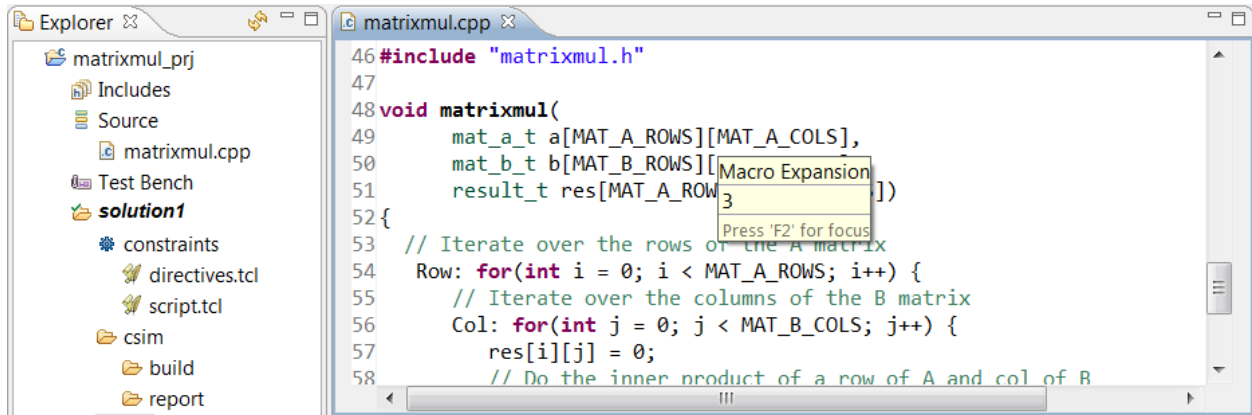

Figure 144: Source Code for the Matrix Multiplier
- Expand the Sources folder in the Explorer pane and double-click `matrixmul.cpp` to view the source code (**Figure 144**).
Scroll down the file to see that the source code has two input arrays, `a` and `b`, and output array `res`. Hold the mouse over the macros (as shown in **Figure 144**) to see that each is three-by-three for a total of nine elements.